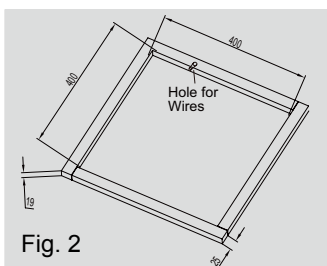

Fig. 2
If a roof vent opening is not used,a new opening(see Fig.2)will be cut into the vehicle roof. A matching opening will also have to be cut into the interior vehicle ceiling,be careful when cutting the ceiling opening because if the ceiling opening is carpeted,snagging could occur. After the opening in the roof and interior ceiling are the correct size,a framed support structure must be placed between the exterior roof top and interior ceiling.
2.It must be capable of holding the roof outer surface and interior ceiling apart and supporting them, so that when the roof top air conditioner and ceiling assembly are bolted together,no collapsing occurs. A typical support frame is shown in Fig. 2.